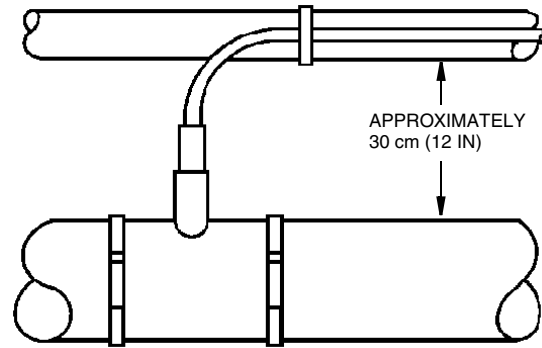

Figure 2. Flowmeter Body Cable Support
3. Firmly secure the cable that connects the flowmeter body to the electronic housing. The support should be approximately 30 cm (12 in) from the flowmeter body. A loose cable may cause wear at the cable connection and result in signal noise. The temperature limit of the cable is 105°C (220°F). Do **not** support the cable on a surface exceeding this temperature. See Figure 2.